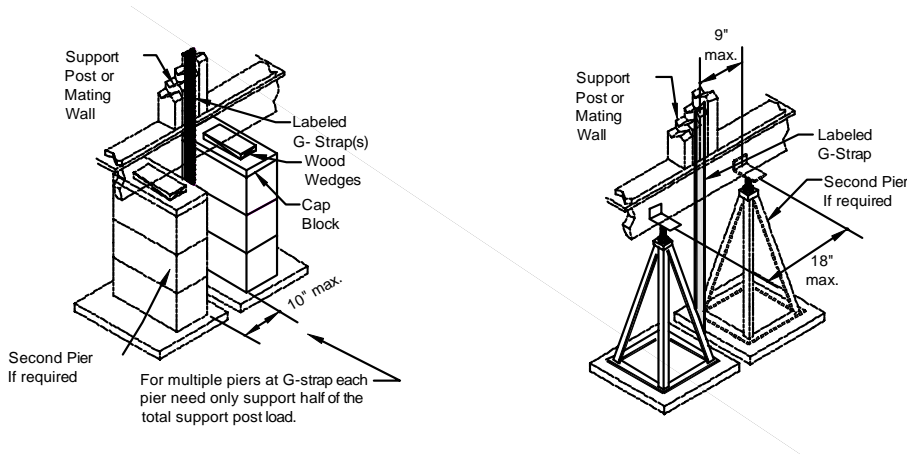
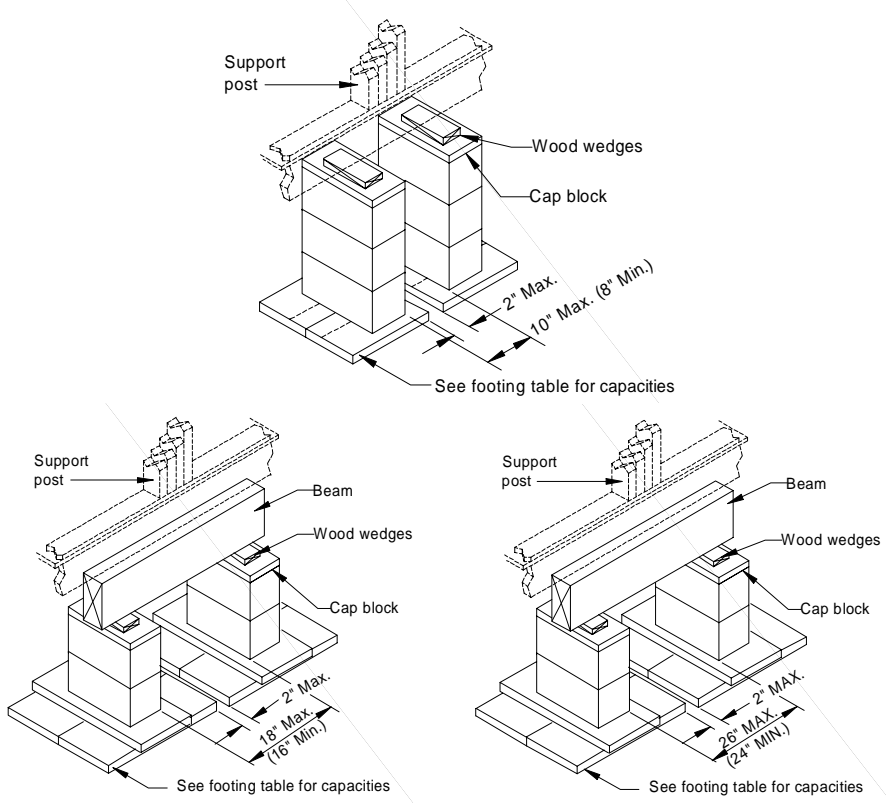
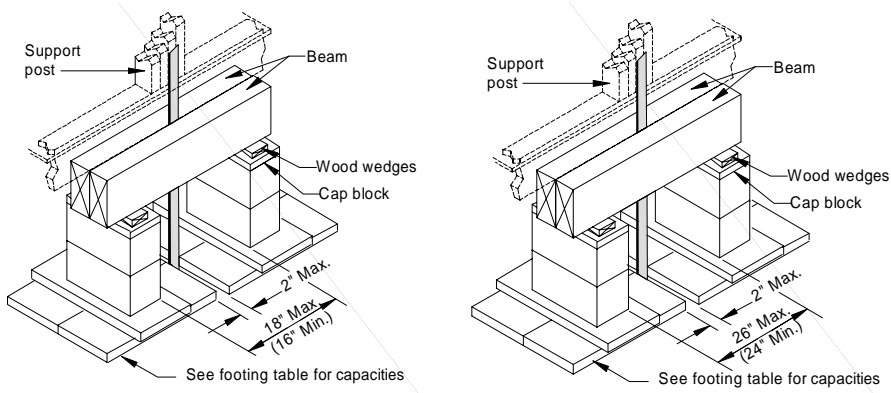

Figure 16. Piers at Support Posts (with G-Strap)
Figure 17. Multiple piers at support posts
Figure 18. Multiple piers and G-strap at support posts
- For multi-section units, the mating line piers may need special solutions. If a G-strap occurs at a support post, the piers can be arranged as shown in **Figure 16**. If the loads at the support post are large enough, it may be necessary to use double piers as shown in **Figure 17**. If a G-strap occurs where double piers are used, it may be necessary to add support beams as shown in **Figure 18**.
- **Figure 15** thru **Figure 18** are intended to show pier and footing placement. The actual pier construction shown (concrete block or commercial metal) is not meant to limit the type of pier that can be used. Any type of pier described in **Table 13** (p. 37) may be used in these configurations.